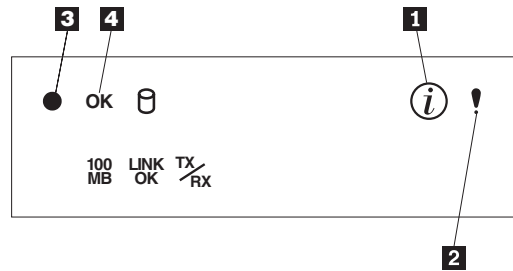

Figure 12. Locations of the Information LED, System Error LED, POST Complete (OK) LED, and Power-on LED
Complete the installation by switching on the appliance and running the power-on diagnostics. Each time the appliance is switched on, it runs a self-testing program to ensure that it is running correctly. If the power-on diagnostics complete successfully, the Information LED and the System Error LED are off; the POST Complete (OK) LED and Power-on LED are on. See Figure 12 for the locations of the Information LED, System Error LED, POST Complete (OK) LED, and Power-on LED.